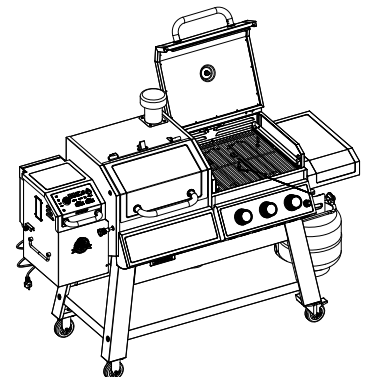

FIG. 3
- If igniter does not light burner, use a lit match secured with the lighting rod (included with the grill) to light burners. Access the burners through the cooking grate and heat plates. Position lit match near side of burner (Fig. 3).